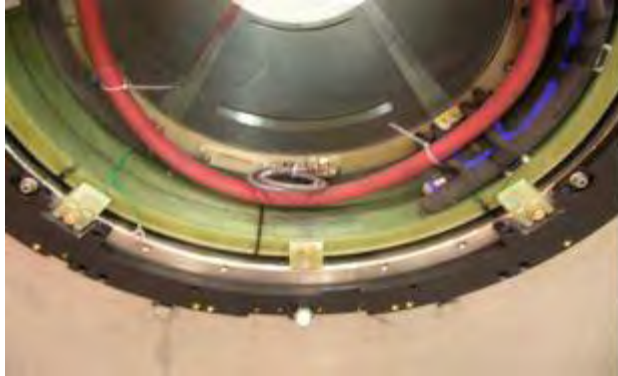

Figure 56 – Positioning of the Lower Wedges
- Q. At the magnet patient-end, attach the XRMB Radial Alignment Tool (5266408) to the magnet interface ring at 0° (top) using M10 studs and nuts. **(See Figure 56 for reference)**
- V. Slowly lower Support Plate bearing and Tube Jack. The full weight of the XRMB is now loaded onto the six lower wedges. Take care not to rotate the coil. Once on the support blocks use an outward wedge to check the alignment (when bolted to the I/F ring, the wedge lines up with the pocket) **(Fig 56)**